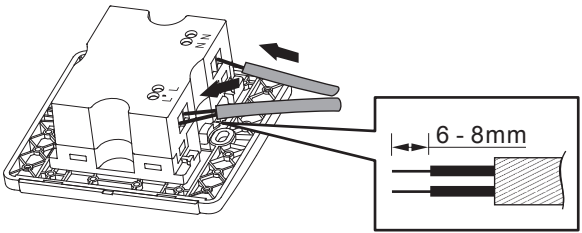

FIG.8
3.3.3 Unscrew the terminal and refer to the wiring diagram (See FIG.5 - FIG.6) to insert the power cables into the corresponding terminal pin jack. Please strip off 6 - 8mm of cables sheathing by tool (See FIG.8).